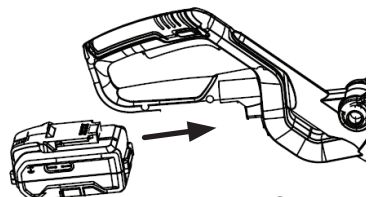

FIG 8
INSTALLING OR REMOVING THE BATTERY PACK (FIG 8)
- To install the battery pack, slide the battery pack onto the bottom of the rear handle all the way until it locks in place with a click, as shown in FIG 8. Lightly pull on the battery to ensure it is locked into place and will not accidentally fall out of the product.